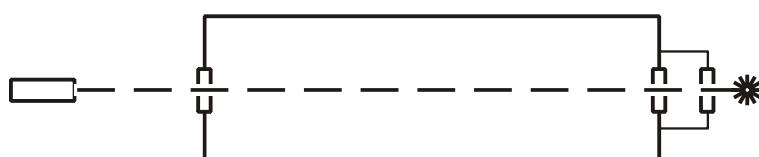

Figure 106: Direct alignment of alignment laser through the laser tube
2. Direct the output of the alignment laser through the center of the laser tube (see Figure 106). The alignment apertures are not installed at this stage.